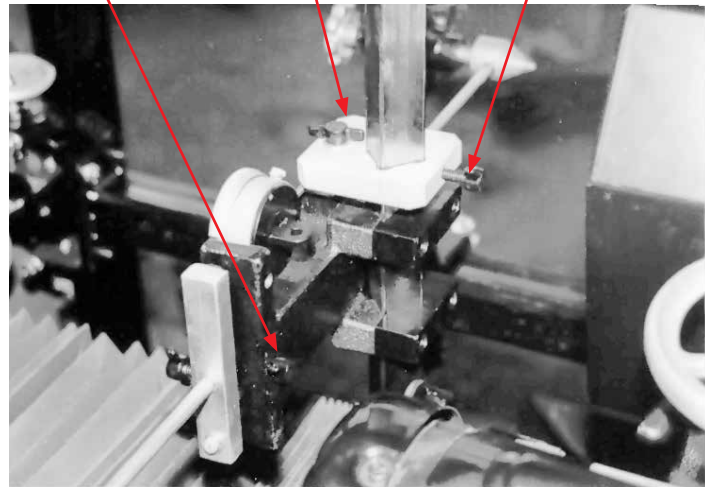

FIG. 46
1. Move the grinding head assembly until the set up fixture is approximately 1" from the right side of the reel. Lock the Knob A within approximately $1/8"$.125" (3MM) of center shaft of the reel. See FIG. 46.
4. Pull rod back and lock Knob C. See FIG. 46. Traverse to the other side of reel, same distance from end. Loosen Knob C and extend alignment rod.
2. Lower the indicator slide casting on the vertical support so the indicator rod can make contact with the center of the reel shaft within approximately $1/16"$.062" (1.5 MM) and lock Knob A. See FIG 46. Center shaft should be clean and free of rust where rod makes contact. Fine adjust using Knob B until the alignment rod is in the center of the reel shaft. See FIG. 50 and 51.
4. Now set the outer dial indicator to the "0" position. Read and note the position of the smaller (.100) dial. You must know this reading when setting up the other side. Pull back and lock with Knob C. See FIG 46.
When you pull the indicator rod back, tighten knob ("C") so you do not have to hold the rod in the back position. See FIG 46.